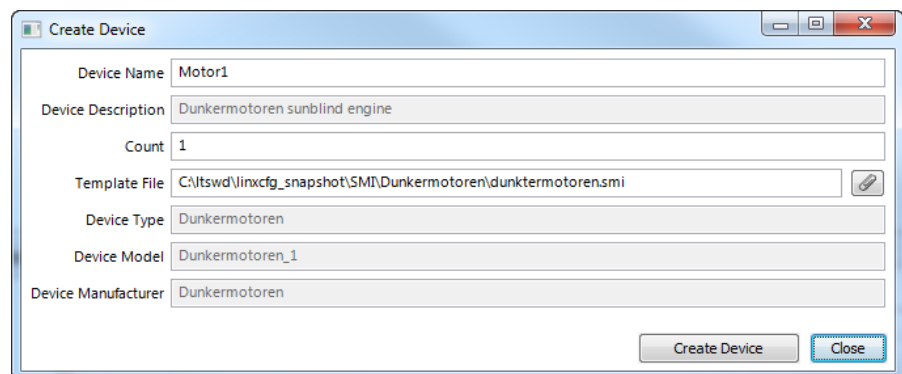

Figure 168: SMI device creation dialog
3. In the **Create Device** dialog enter a Device Name and a Count of devices to be created as shown in Figure 168.